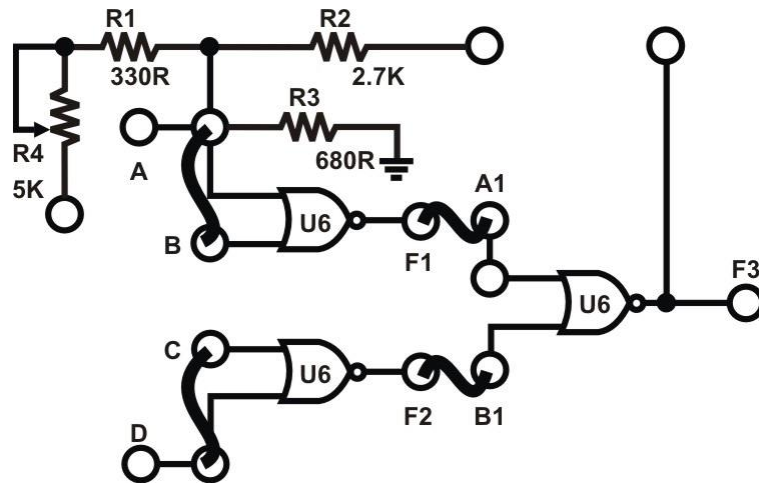

Figure 1.11: build AND gate using NOR gate using kits.
- g) From the above equation ( $F''$ ) we can see that we can build AND gate using one NOR gate and two NOT gates. Insert connection clips according to Figure 1.11 below. Connect A to SW0; D to SW1; F1 to A1; F2 to B1; F3 to L1. Follow the input sequences given below, and record the output states in Table 1.5.